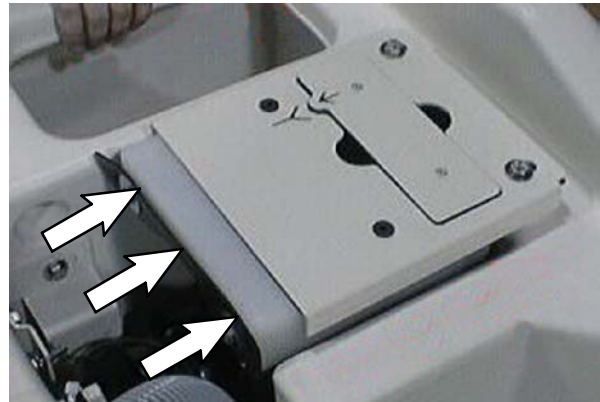

FIG. 5
7. Insert the vacuum fan assembly next to the recovery tank, pull the vacuum fan assembly tight to the solution tank and elbow tube, and reinstall the hardware to secure the vacuum fan assembly into place. Refer to Fig. 5.